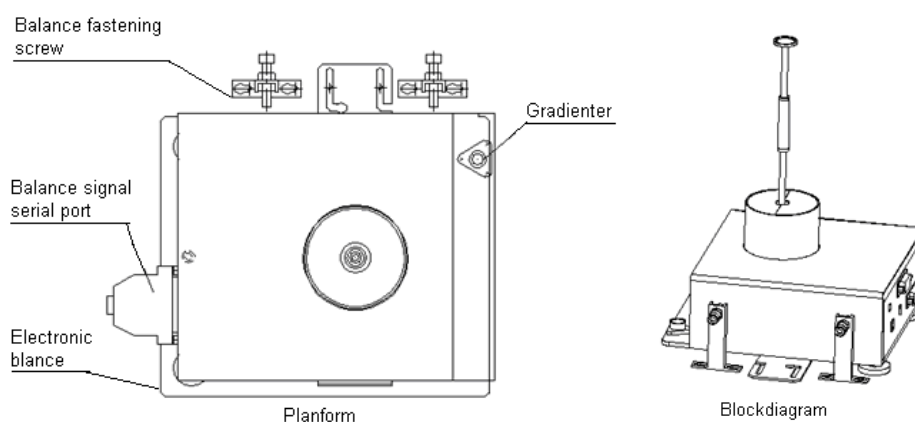

Fig.3-1
- 2) As shown in Fig.3-1, unloose the fastening screw and put in the balance.